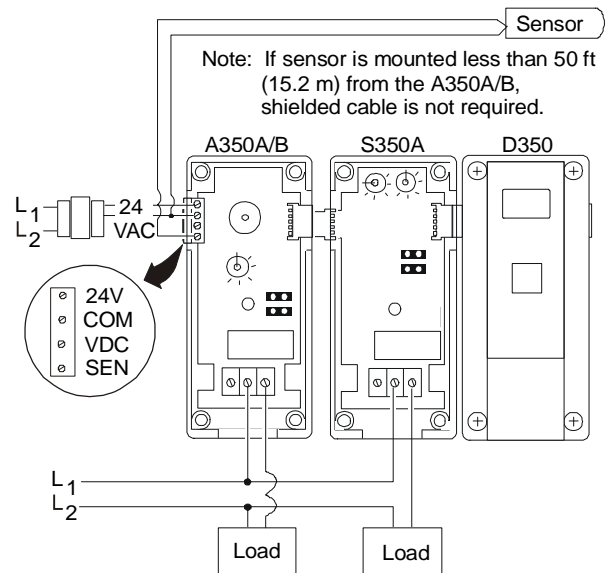

Figure 4: Typical Wiring Diagram for A350A/B Powered by an External 10 VA Transformer
- Consult the typical wiring diagrams (Figures 4 and 5) for proper wiring and terminal designations.